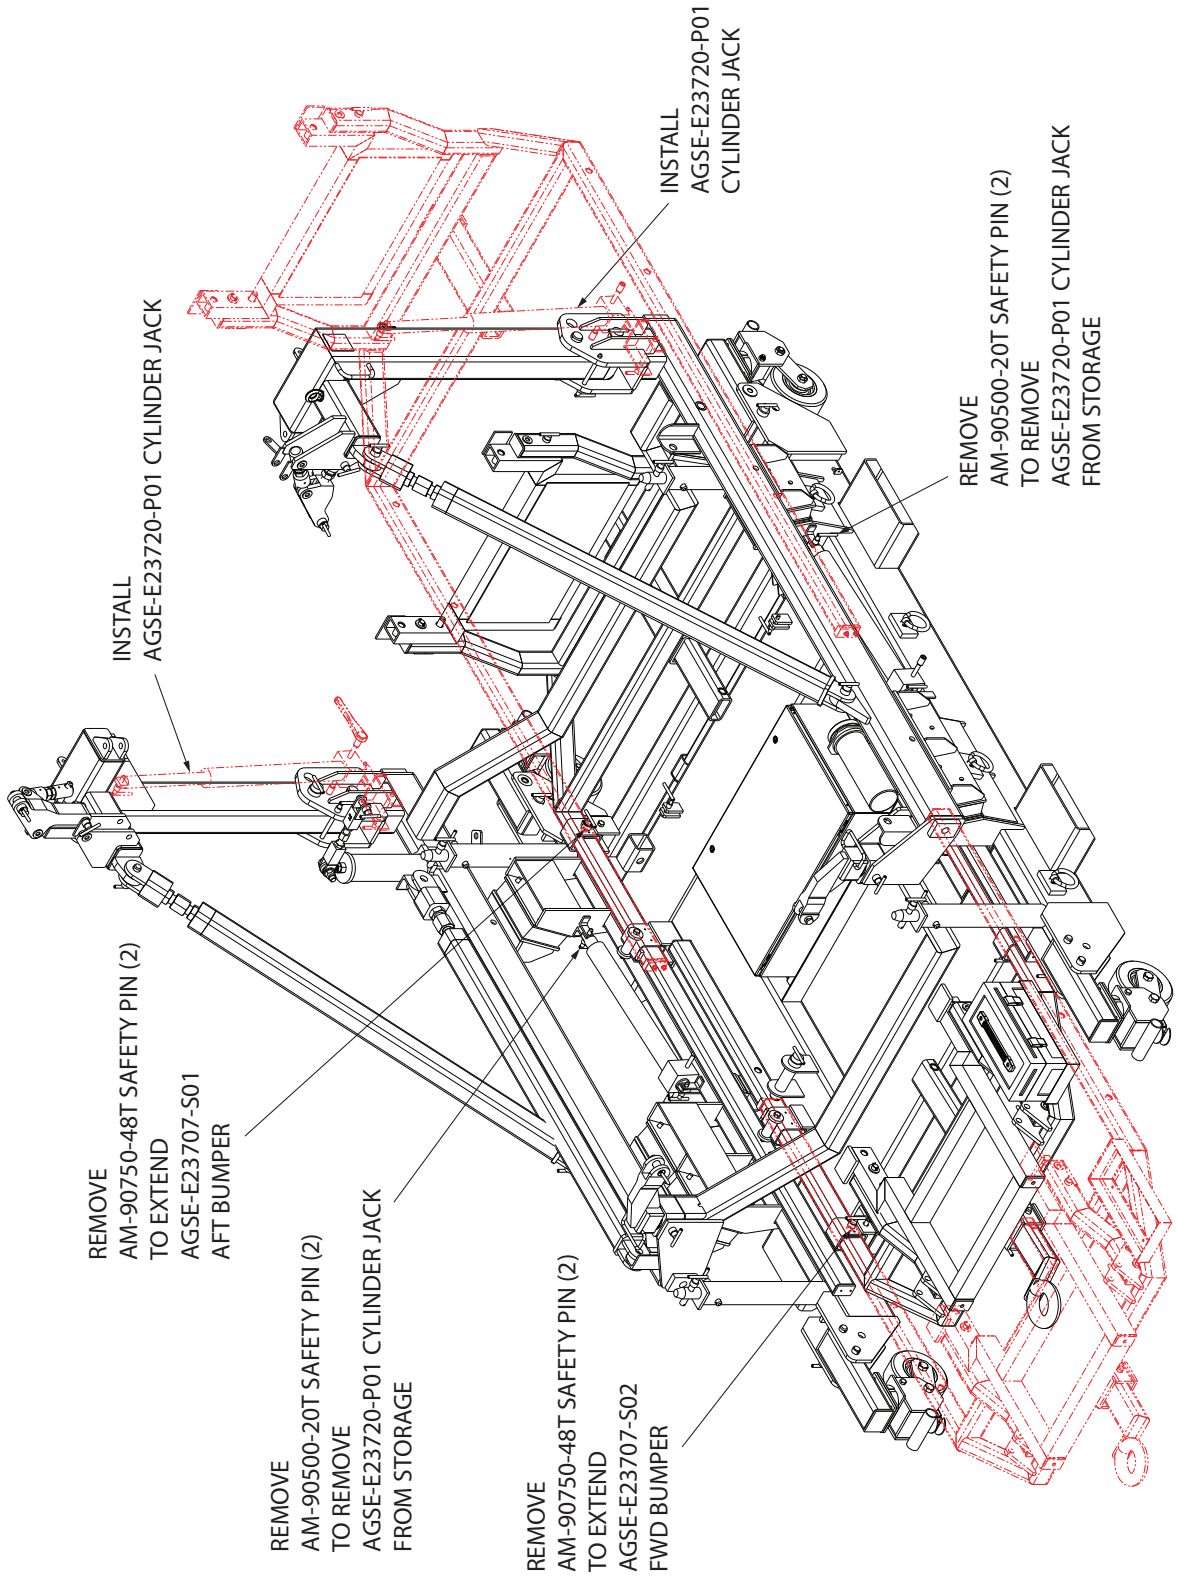

Figure 5.1-4
- 10) Remove AGSE-E23720-P01 cylinder jack (IPB Figure 2 - Item 16) from storage by removing two (2) AM-90500-16T safety pins (IPB Figure - Item 9). Determine which is the correct post, move AGSE-E23719-P01 cylinder mount (IPB Figure 2 - Item 7) to that post and attach with AM-90500-72T (IPB Figure 2 - Item 10) safety pin. Attach the cylinder jack to the cylinder mount and post using the removed hardware. (Illustration Figure 5.1-4).